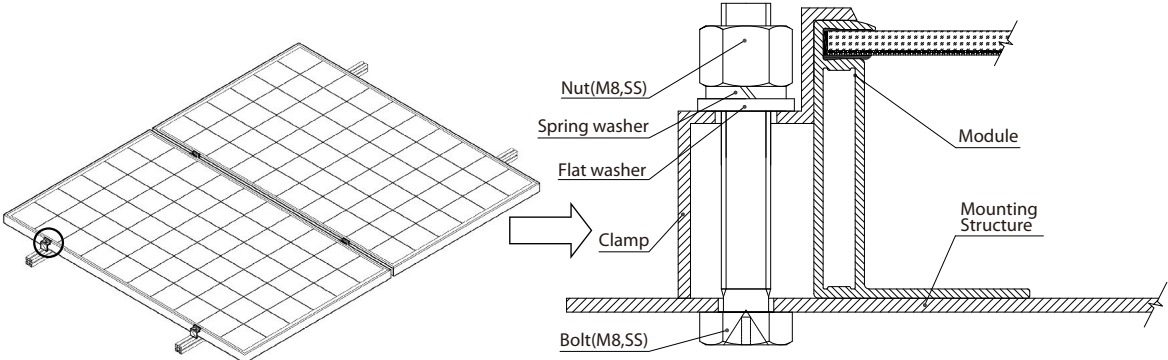

Figure 2
- Clamping system:** Use suitable clamps to fix the Module on the support frame, as shown in Figure 2.